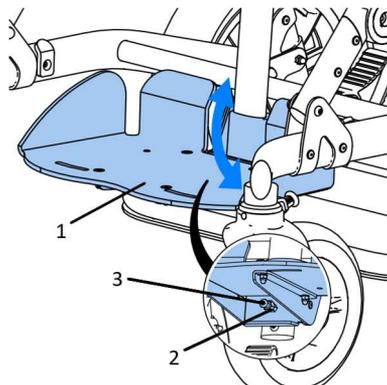

Fig. 24
In order to fit Fig. 24 limiting the angle of inclination of the footrest platform (1) in relation to the guide profile, unscrew the nut (2) with a 10 mm wrench, and then adjust the inclination of the platform by unscrewing or screwing the screw (3) using an H4 wrench. After each adjustment of the platform angle, press the platform to check whether the angle is set correctly. After adjustment, tighten the nut (2).